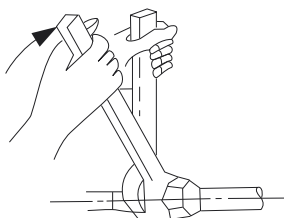

Fig. 12 — Tighten Flare Nut
6. Tighten flare nut and finish installation using two wrenches as shown in Fig. 12.
- Connect refrigerant piping and drain line outside of indoor unit. Refer to Fig. 12 for proper installation of flare connections. Complete pipe insulation at flare connection then fasten piping and wiring to the wall as required. Completely seal the hole in the wall.